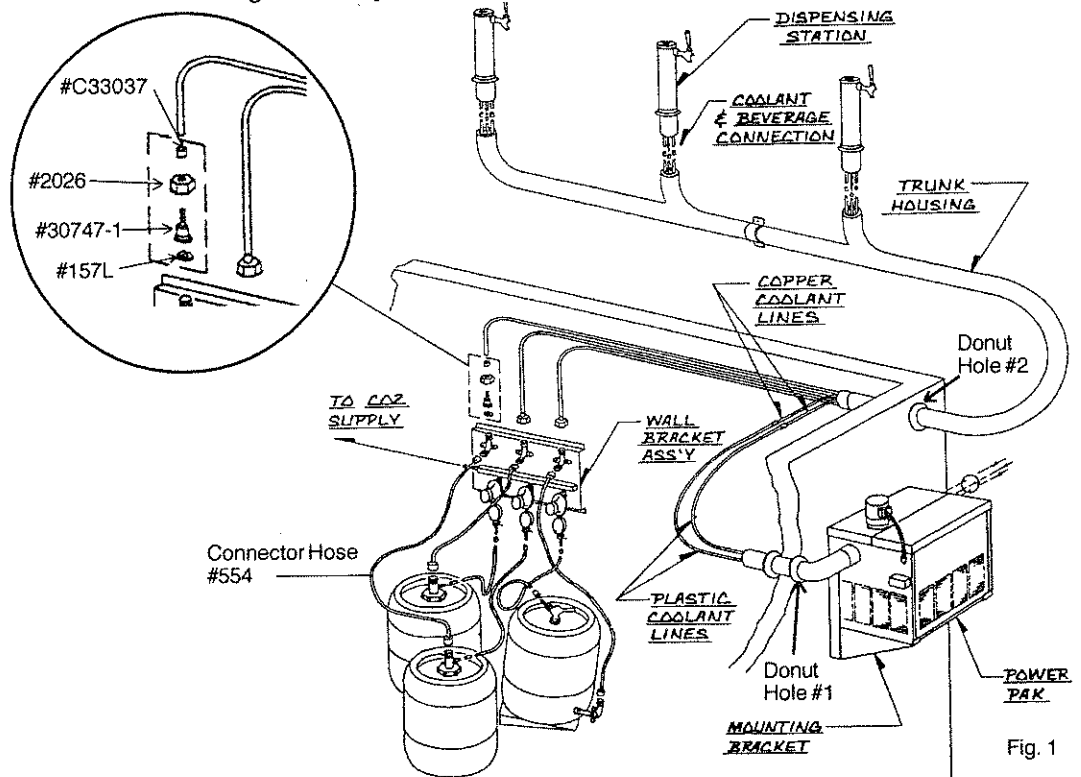

Fig. 1
1. Determine where trunk housing will enter walk-in cooler and place power pak as close to the Century housing as possible (See Fig. 1).
2. Drill a 3½" diameter hole in walk-in cooler wall to accommodate trunk housing (see Fig. 1 - Donut Hole #2).
1. Drill a 3 $\frac{1}{2}$ " diameter hole in wall of walk-in cooler to accommodate coolant lines as shown in Fig. 1, page 4, (Donut Hole #1).
1. Mount regulator wall bracket assembly on inside wall of walk-in cooler as shown in Fig. 1, page 4.